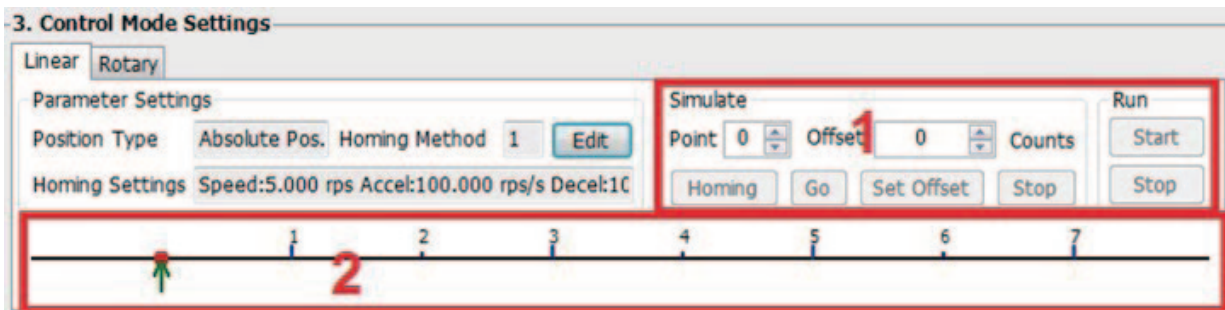

Figure 7.5.8 Linear motion Simulate
Go: Set the position point by changing the value in point box, and click 'go' button to start the motion. In Figure 7.5.8 Linear motion Simulate, green arrow in box ② shows the load position in real time.